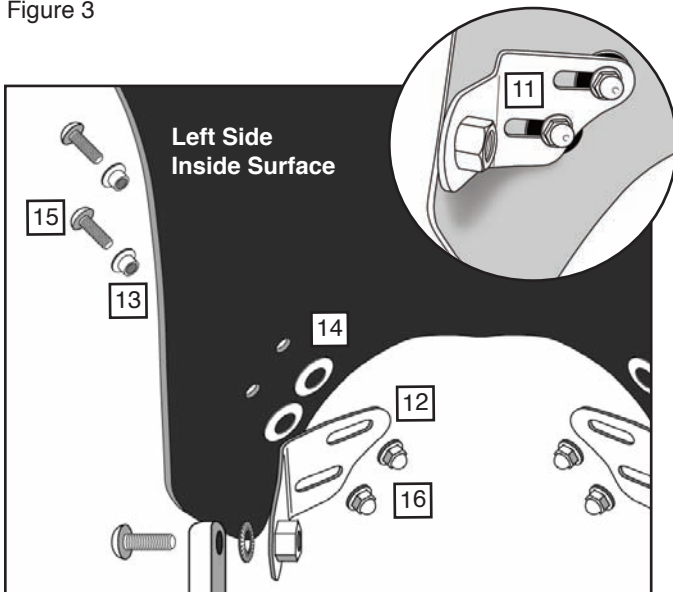

Figure 4
6. Install 1, Washer (14) over each hole in the Screen. **Figure 4**
7. Select the Left Bracket (11) and install to the Left, Inside surface of the windscreen using 2, Collars (13), 2, Screws (15) and 2, Nuts (16) as shown in **(4mm Hex Wrench and 10mm Socket) Figure 4**.